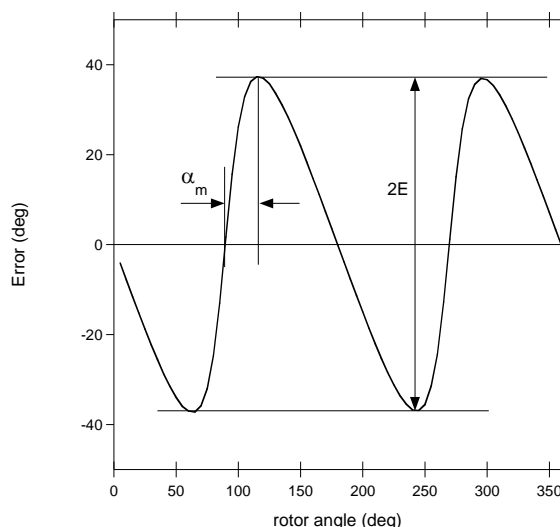

Figure 21: Error Curve in Side-Shaft Configuration with BCT = 0
The ratio k depends on the magnet geometry and the distance to the sensor. Having a k ratio different from one results in the sensor output response not being linear with respect to the mechanical angle. Note that the error curve has the shape of a double sinewave (see Figure 21). E is the amplitude of this error.
It is possible to deduce the k ratio from the error curve obtained with the default BCT setting (BCT = 0). For this purpose, rotate the magnet over one revolution and record the MagAlpha output. Then plot the error curve (the MagAlpha output minus the real mechanical position vs. the real mechanical position) and extract two parameters: the maximum error (E) and the position of this maximum with respect to a zero crossing a_m (see Figure 21). k can be calculated with Equation (7):